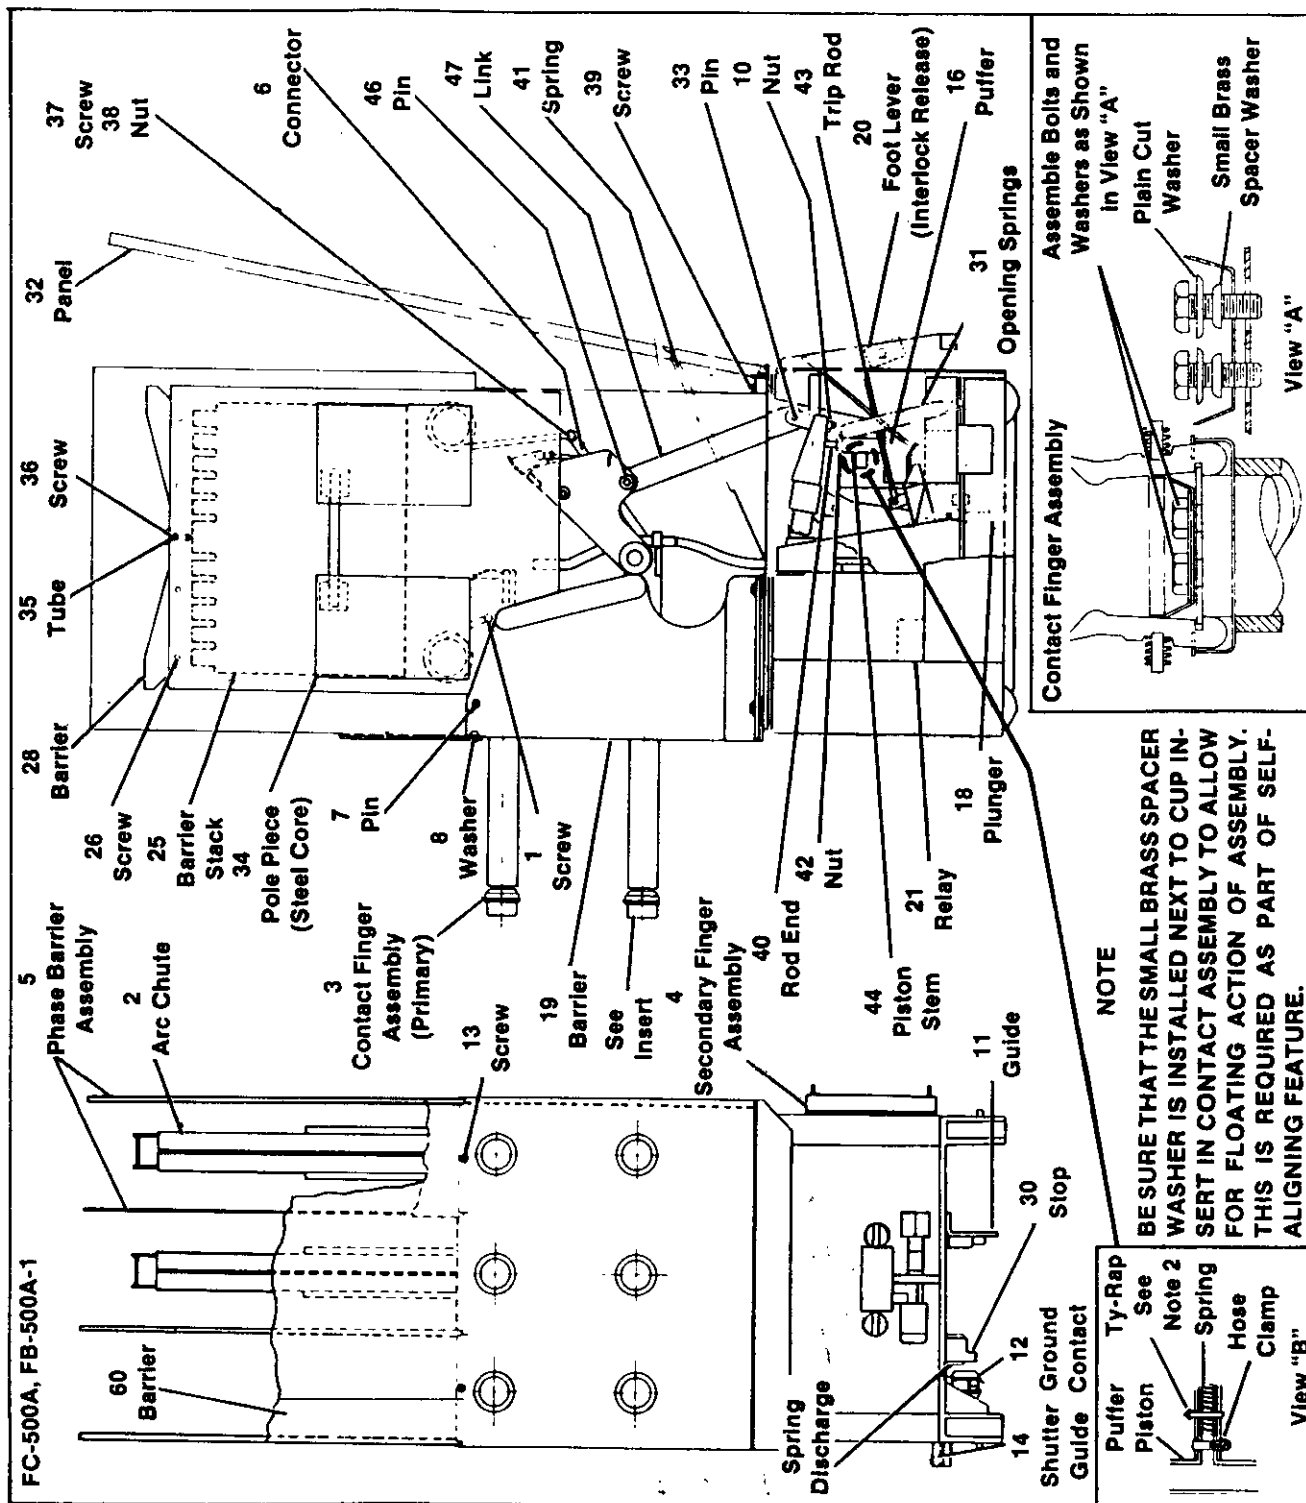

Figure 2. Typical Circuit Breaker Assemblies
7. Trip breaker by depressing trip rod, Figure 2, Item 43.